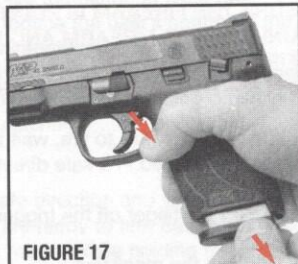

FIGURE 17
- Point the muzzle in a safe direction. Make sure your finger is off the trigger and out of the trigger guard. Depress the magazine release and remove the magazine (FIGURE 17).